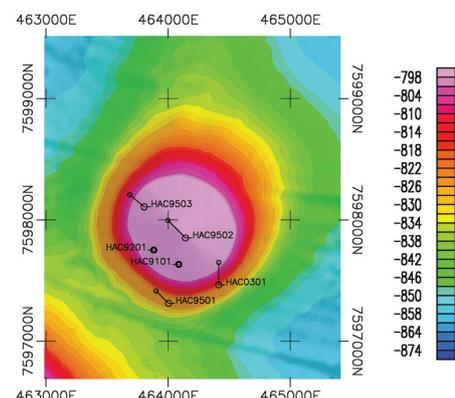

Figure 2. Aeromagnetic data; sensor height 40 m.
Application of basic chemical equations of state and determination of rock properties with depth for sandstones and carbonates indicates that at these depths, vertical CO₂ velocities may increase by over an order of magnitude, due to the significant step in buoyancy when CO₂ changes from liquid or supercritical fluid to gas (Figure 2, Lodhia and Clark 2022). This raises the prospect of increased surface or near-surface temperatures and the subsequent transportation of heat through shallow conduits (e.g., faults) influencing the depth of CO₂ gas-fluid phase transitions on human timescales. This is intriguing as most experiments and test wells for CO₂ injection are typically drilled at depths of less than 1 km. Increased subsurface temperatures due to long-term climate change and urbanisation may mean that CO₂ must be injected deeper
Figure 2. Fluid mobility for CO₂ and methane calculated according to Eq. (1). Fluid mobilities are calculated at $T_s = 0^\circ\text{C}$ (top) and $T_s = 20^\circ\text{C}$ (bottom), respectively. Units for fluid mobility are $\text{m}^2 \text{Pa}^{-1} \text{S}^{-1}$ and buoyancy are $\text{kg m}^{-2} \text{S}^{-2}$. Yellow and blue lines represent fluid mobility in sandstone and carbonate, respectively. Grey lines represent buoyancy and shaded regions represent range of values calculated using different Equations of State and lithological parameters. Dashed lines represent phase transitions: G gas, L liquid, DL dense liquid and SC super-critical. Gas-fluid phase transitions are shown in bold. Vertical fluid velocity may be calculated by multiplying mobility and buoyancy. Modified from Lodhia and Clark, 2022.
Detailed aeromagnetic data, collected along 50 m spaced NNE flight lines at 40 m altitude and shown in Figure 2, define a circular magnetic anomaly of about 100 nT with a half width of 800 m within generally bland magnetic terrain. Images that follow also show collar locations for six of Newcrest's historical "HAC" holes with surface traces if non-vertical.